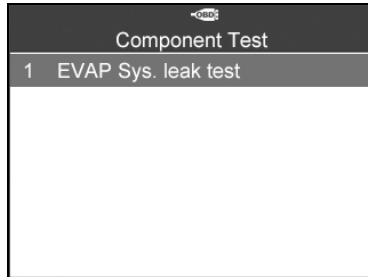

Figure 6.24
- 2) Wait for the scan tool to display the **Component Test** menu. (Figure 6.24)